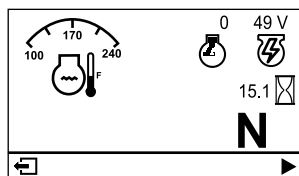

Figure 23
- **Main information screen** (Figure 23): shows current machine information while the key is in the ON position.